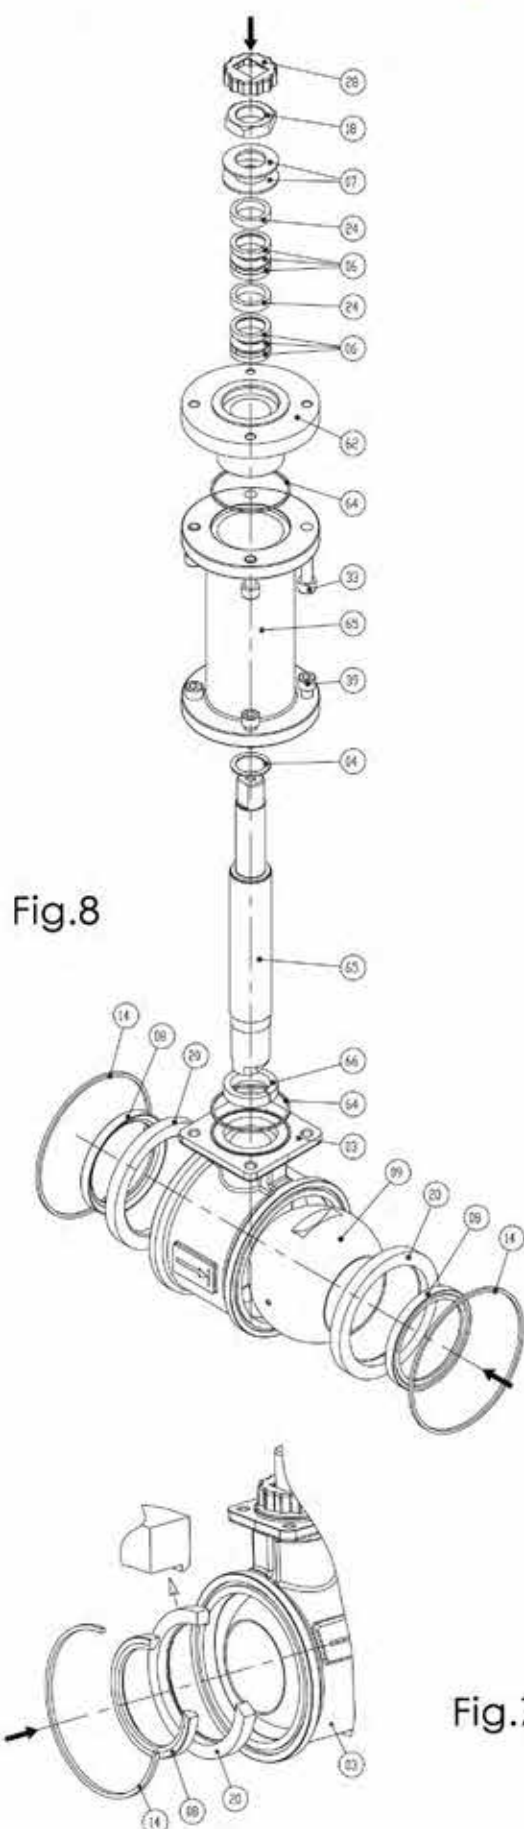

Fig.7
Valve maintenance, body DN 65 to 100 (Fig.5 & Fig.7)
1. Unscrew nuts (17) and boltings (13)
3. Operate a 90° turn in order to set the ball (09) in closed position
4. Push the ball (09) out of the valve body. Seat supports (20) are also pushed out.
5. Take the seats (08) out of the seat supports (20)
6. Take body seals out (14)
8. Re assemble all parts following opposite disassembly instructions. When re assembling the seats (08) and seat support (20), make sure it is done as per shown on figure 7.
Valve maintenance, body DN 65 to 100 (Fig.5, Fig.7 & Fig.8)